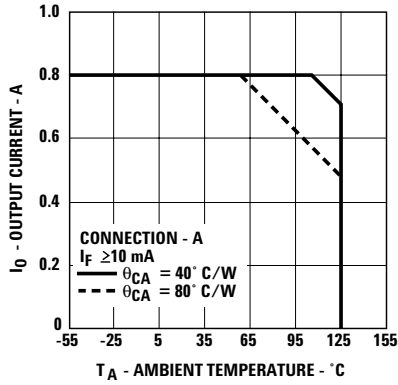
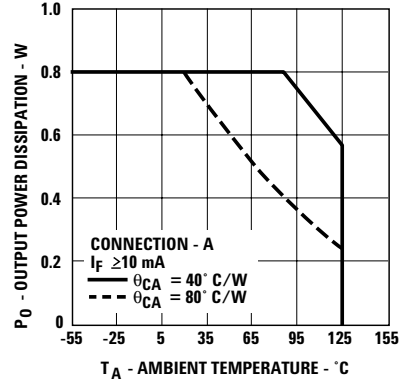

Figure 2. Maximum Average Output Current Rating vs. Ambient Temperature.
Figure 4. Output Power Rating vs. Ambient Temperature.
Average Output Current - Figure 2
- For rating, see Figure 4. The output power P_O rating curve is obtained when the part is handling the maximum average output current I_0 as shown in Figure 2.
IN ORDER TO DETERMINE V_{OUT} CORRECTLY, THE CASE TO AMBIENT THERMAL IMPEDANCE MUST BE MEASURED FOR THE BURN-IN BOARDS TO BE USED. THEN, KNOWING θ_{CA} , DETERMINE THE CORRECT OUTPUT CURRENT PER FIGURES 2 AND 4 TO INSURE THAT THE DEVICE MEETS THE DERATING REQUIREMENTS AS SHOWN.
output pins for a duration sufficient to reach thermal equilibrium. R_{SS} includes the effects of the temperature rise of each element in the thermal model. Rating curves are shown in Figures 2 and 4. Figure 2 specifies the maximum average output current allowable for a given ambient temperature. Figure 4 specifies the output power dissipation allowable for a given ambient temperature. Above 55°C (for $\theta_{CA} = 80^{\circ}\text{C}/\text{W}$) and 107°C (for $\theta_{CA} = 40^{\circ}\text{C}/\text{W}$), the maximum allowable output current and power dissipation are related by the expression $R_{SS} = P_O(\text{max}) / (I_O(\text{max}))^2$ from which R_{SS} can be calculated. Staying within the safe area assures that the steady-state junction temperatures remain less than 150°C . As an example, for $T_A = 95^{\circ}\text{C}$ and $\theta_{CA} = 80^{\circ}\text{C}/\text{W}$, Figure 2 shows
that the output current should be limited to less than 610 mA. A check with Figure 4 shows that the output power dissipation at $T_A = 95^\circ\text{C}$ and $I_O = 610\text{ mA}$, will be limited to less than 0.35 W. This yields an R_{SS} of $0.94\ \Omega$.